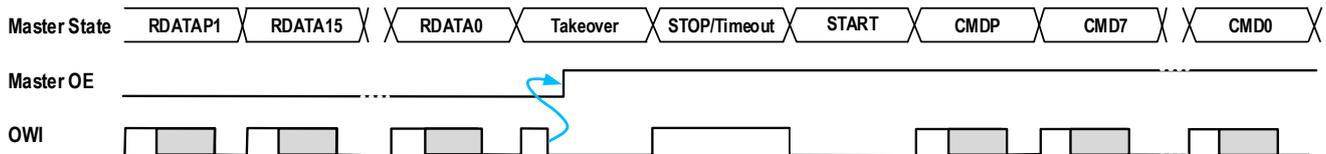

Figure 7. The Timeout as a Protocol Element
- Figure 7. The Timeout as a Protocol Element7